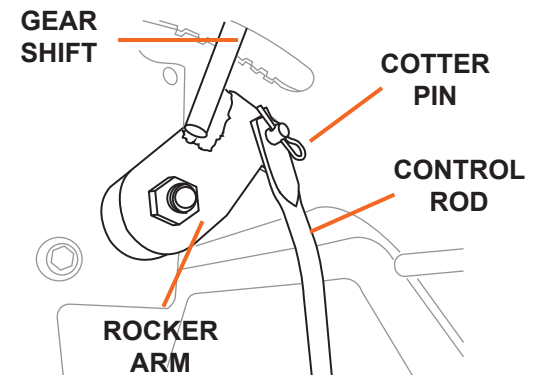

Figure 2
2. Attach the gear shift rod to the rocker arm on the under side of the control panel and secure with a cotter pin (see Figure 2).